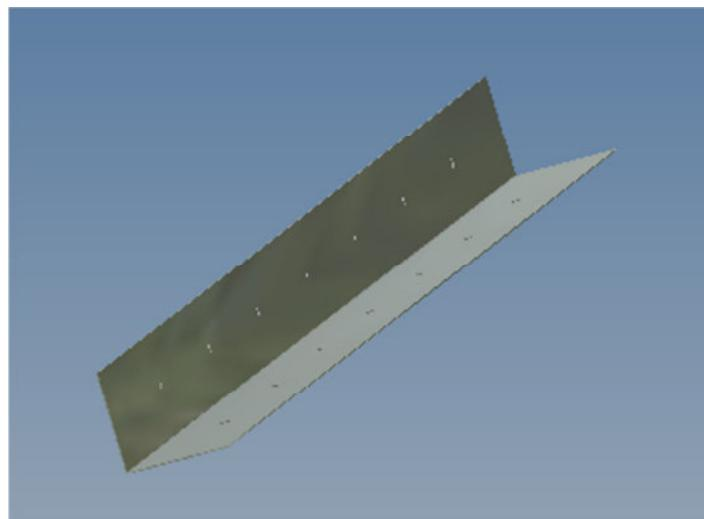
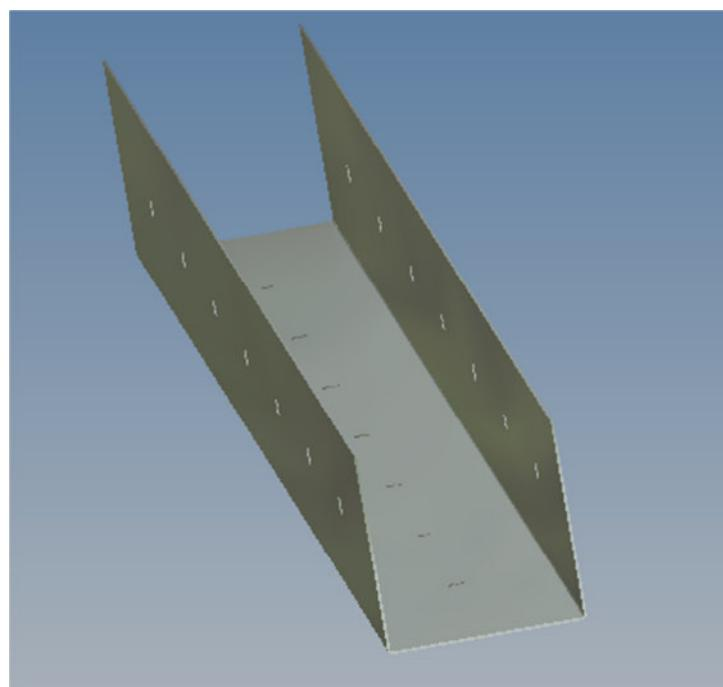

Fig. 9 Corner joint
Fig. 10 T- butt connect
3.2.6 Installation of the corner- connecting sheet metal (Fig. 9) and T- butt- connecting sheet metal (Fig. 10) for sealing the der constructive connection gaps.
- 3.2.8 Positioning of the horizontal bracing steel (Fig. 9) at the tension absorbing butt joints and at the project-specific adapting points according to the position plan and fixation on manufacturer instructions.